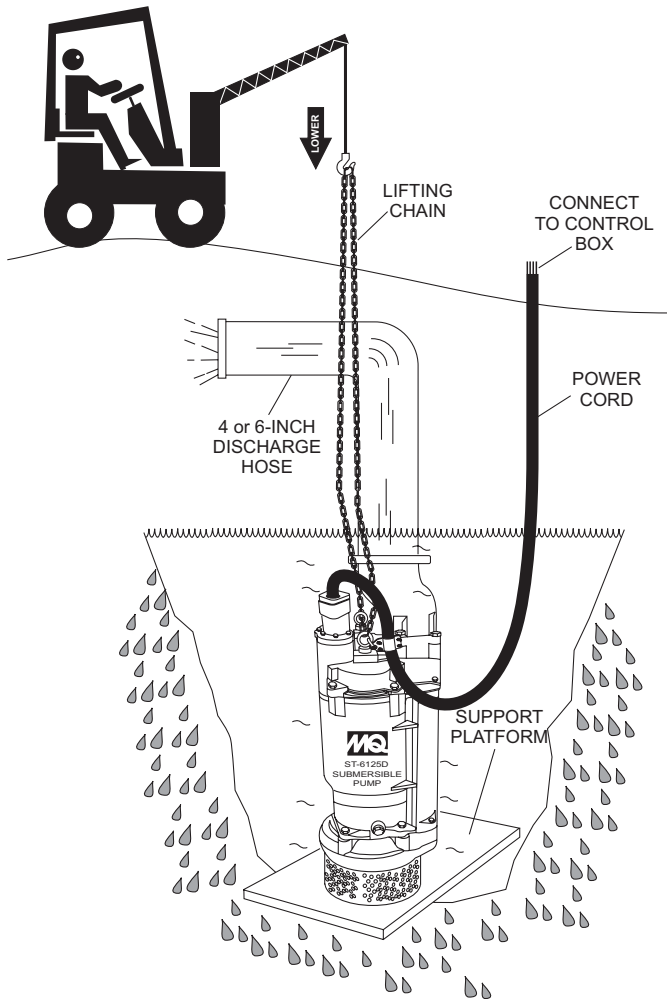

Figure 14. Placing the Submersible Pump (Correct Upright Position)
1. Attach a suitable lifting chain to the eye bolts (Figure 14) on the pump and using a crane, or similar equipment, lower the pump into place. For applications where there is an excessive amount of mud, grit or silt, the use of a support platform is desirable.